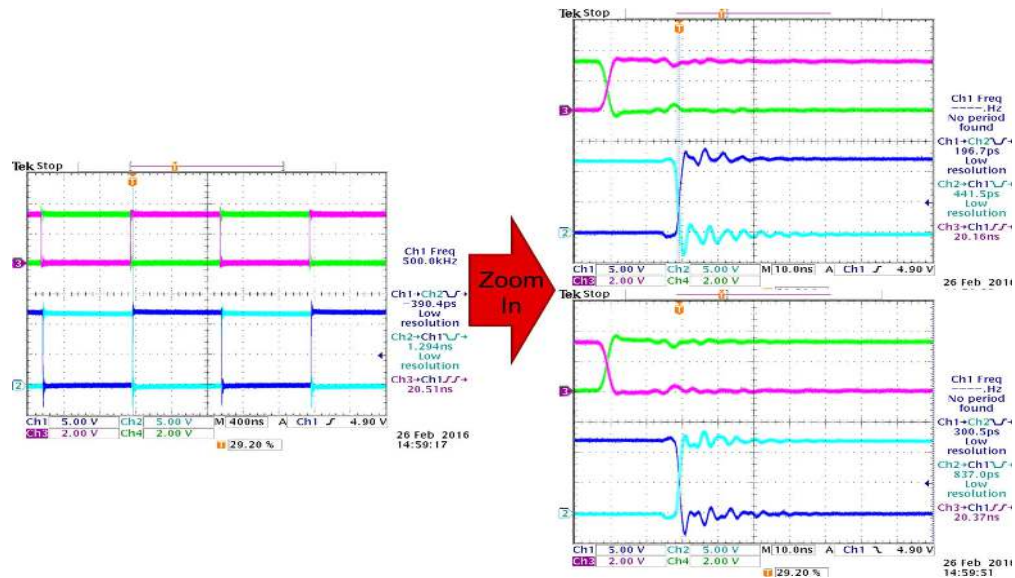

Figure 6-1. Example Input and Output Waveforms (Channels 3 and 4 are PWM Inputs, Channels 1 and 2 are Outputs)
1. Make sure that Section 5.3.6 is implemented for setting up all the equipment before starting the power-up sequence. Figure 6-1 can be used as a reference.
- a. Stable pulse output on the channel-A and channel-B in the oscilloscope (refer to Figure 6-1);